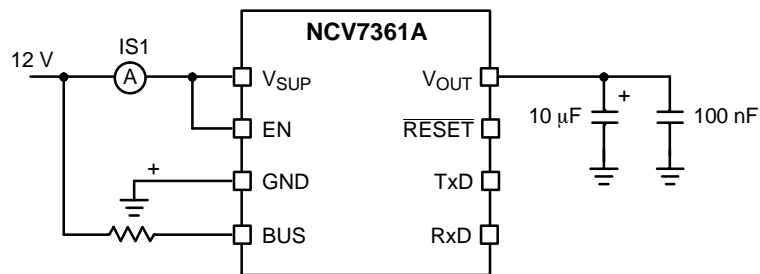

Figure 6. Test Circuit for Supply Current I_{Snl}
4. See Figure 6 for test setup.